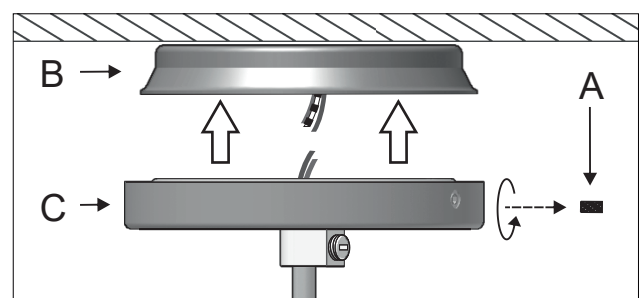

Figure 5
5 - Make the electrical connections. Place the canopy (C) back and fasten the side stud (A) previously removed. Figure 5.